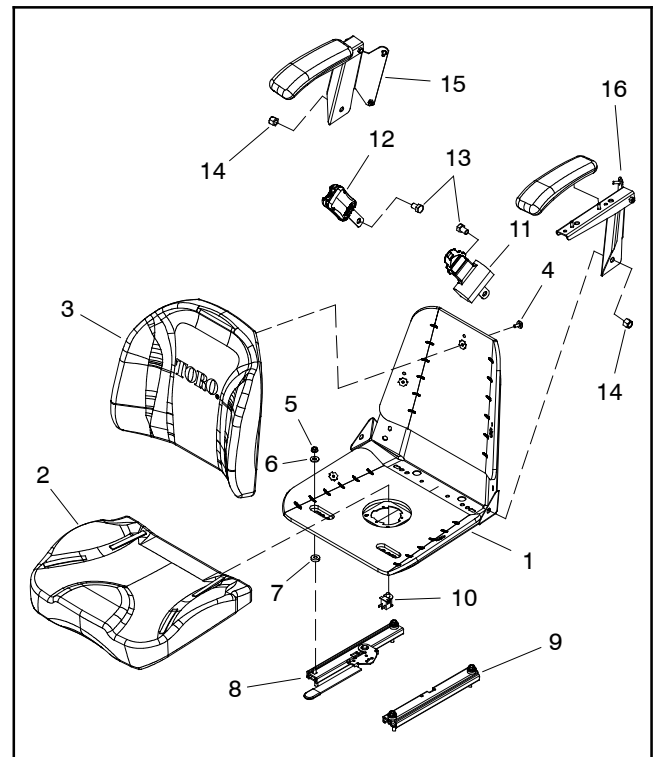

Figure 12
2. Remove four (4) flange head screws (item 3) and flat washers (item 4) that secure seat support plate to machine frame.
5. Remove four (4) flange nuts (item 6) that secure seat to seat support plate. Separate seat from support plate.
6. Disassemble seat as necessary using Figures 12 and 13 as guides.
1. Assemble seat using Figures 12 and 13 as guides.
2. Secure seat to seat support plate with four (4) flange nuts.
3. Make sure that clip nuts (item 5) are properly positioned on frame.
- C. Align support plate to clip nuts on frame and secure with four (4) flange head screws and flat washers.